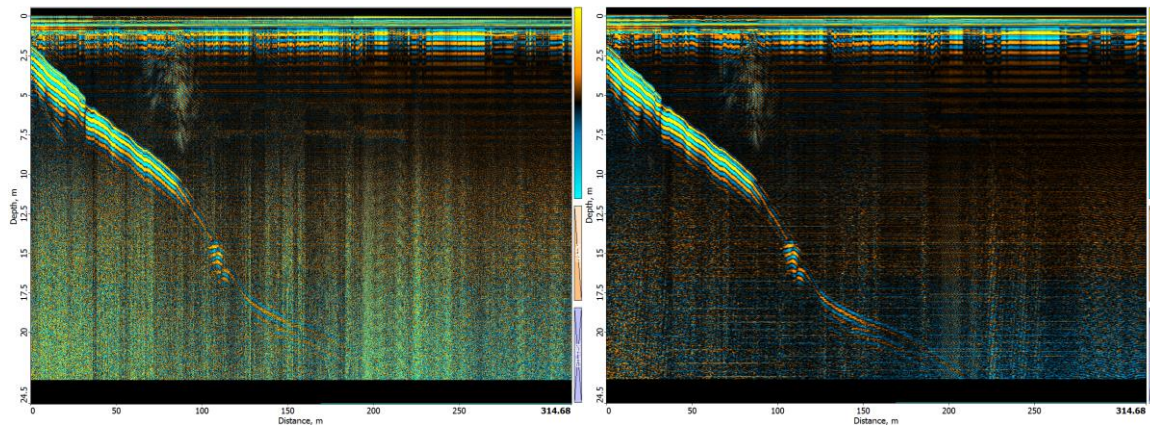

Fig.13.2. Horizontal LP-filtering (left - initial profile, right – processed)
-  **Horizontal LP-filter** is a low-pass filter operating along the profile, in the antenna's movement direction. This processing is designed for the suppression of fast-changing signals (like high frequency noises) and to highlight the slowly-changing signals (like layer interfaces). The main idea of this processing algorithm is to replace the data in the trace by moving average data on the base surrounding traces. Moving average of surrounding traces is calculating for the each trace in profile. The main parameter of this processing is moving average width, called “window width” here. The width increasing intensifies the suppression of fast-changing signals, but do not overwidth it, as it could eliminate the usefull signals as well. The figure below (Fig. 13.2) shows the same data from the lake ice after background removal as initial one. And it is visible how **Horizontal LP-filter** helped to decrease the noise level and raised up the contrast of the lake bottom signal.